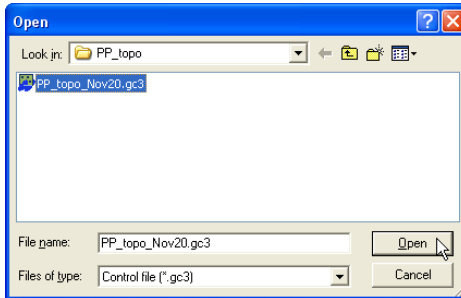

Figure 9-5. Open Control File
- On the *Open* dialog box, navigate to the location of the file, select the file type as Control file (*.gc3), select the desired file, and click **Open** (Figure 9-5).